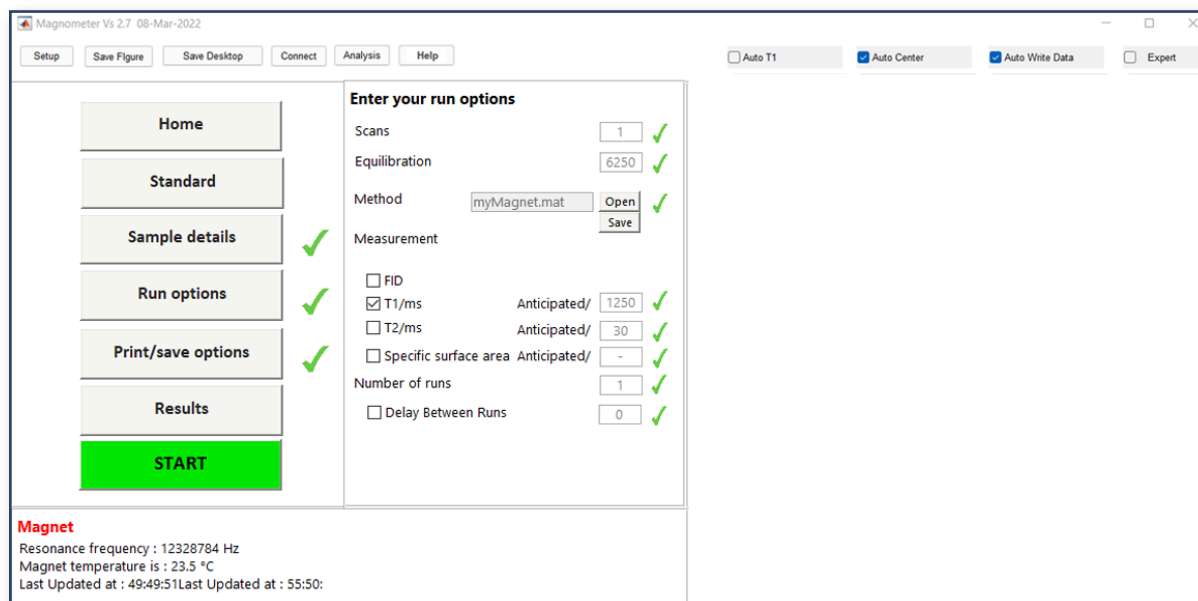

FIGURE 21.
STEP (1). Set the “Anticipated” time for “T1/ms” to “1250”. Leave the “Number of scans” and “Number of runs” each as “1”, as can be seen here (Fig. 21):